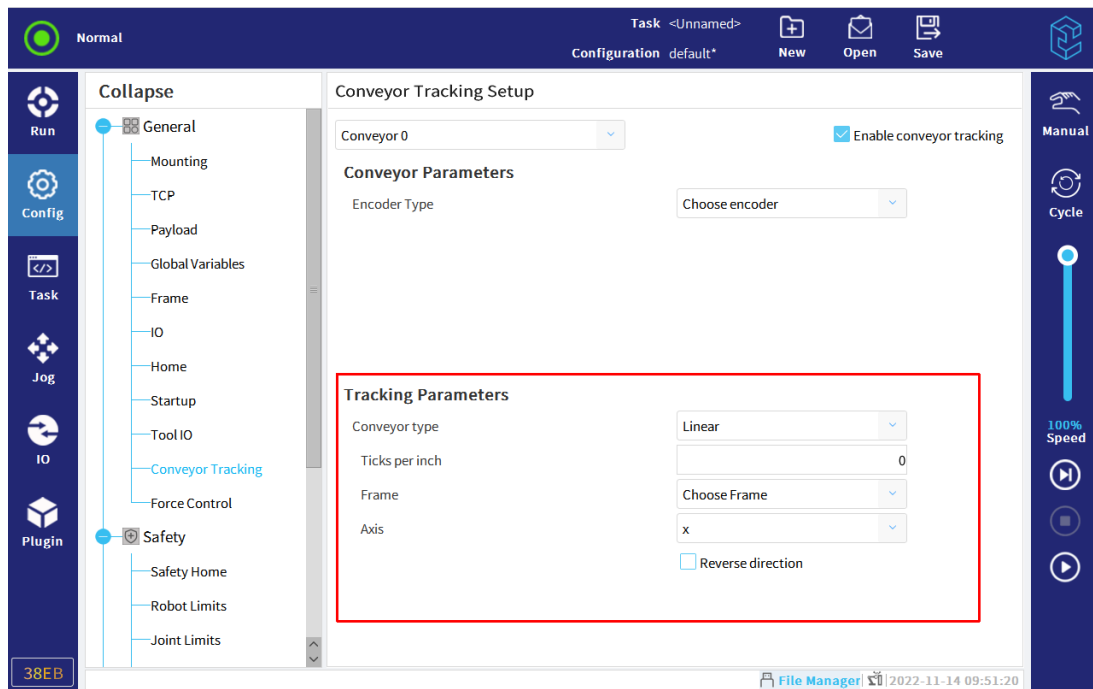

Figure 3-58 : Set tracking parameters
4. Set "Tracking Parameters" and select "Conveyor type" as "Linear" or "Circular", as shown in **Figure 3-58**.